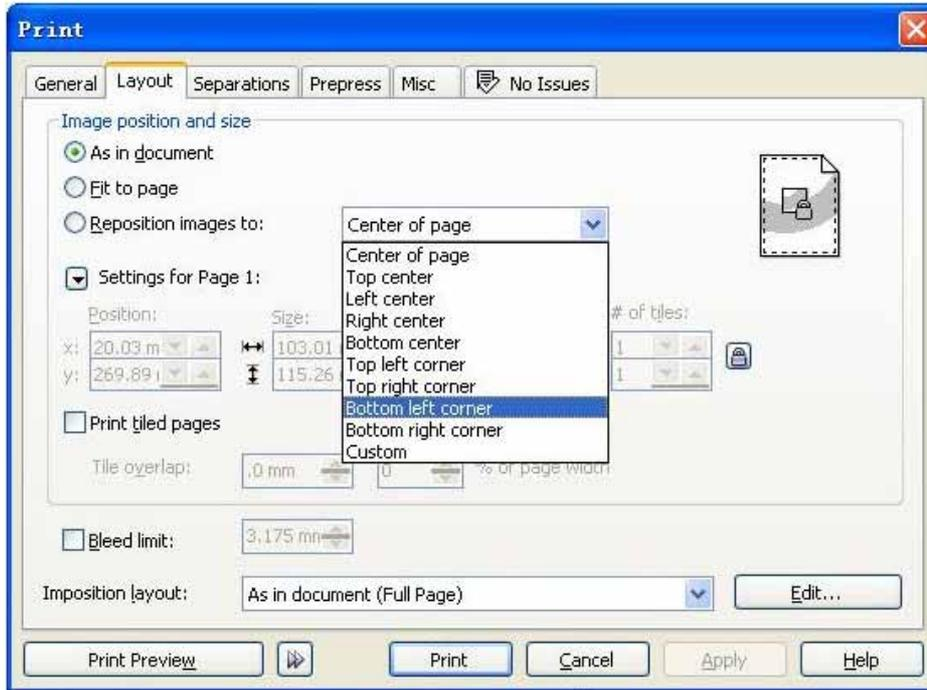
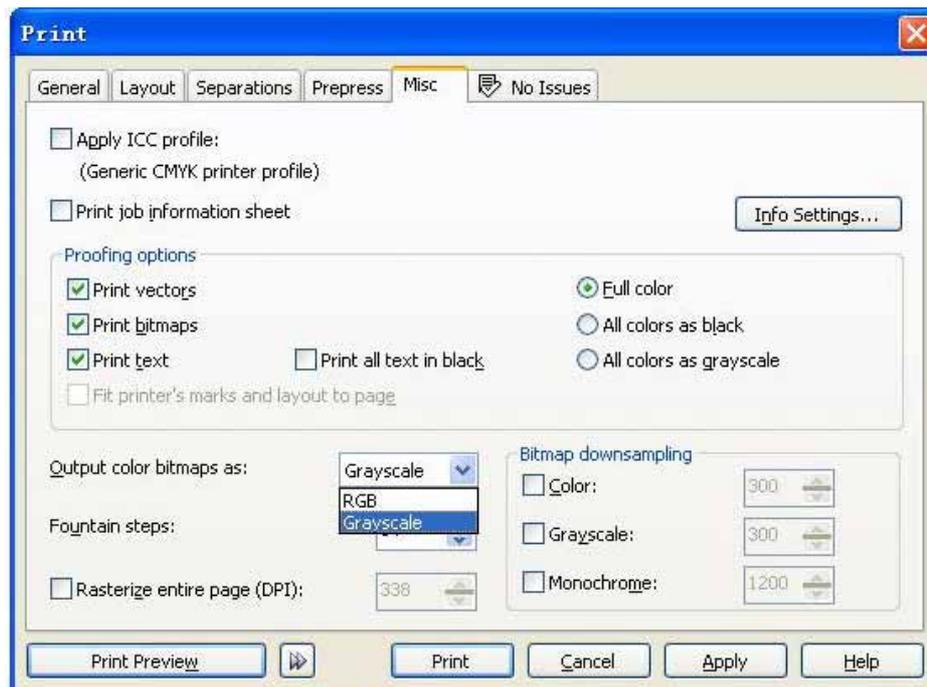

Figure 12
Figure 13
Step 8: Select Bottom left corner on Figure 12. The **OUTPUT COLOR BITMAPS AS** option in Figure 13 is **RGB** but **NOT** Grayscale. **Other selection shall be the same as figure 13, otherwise it will fail to output.**